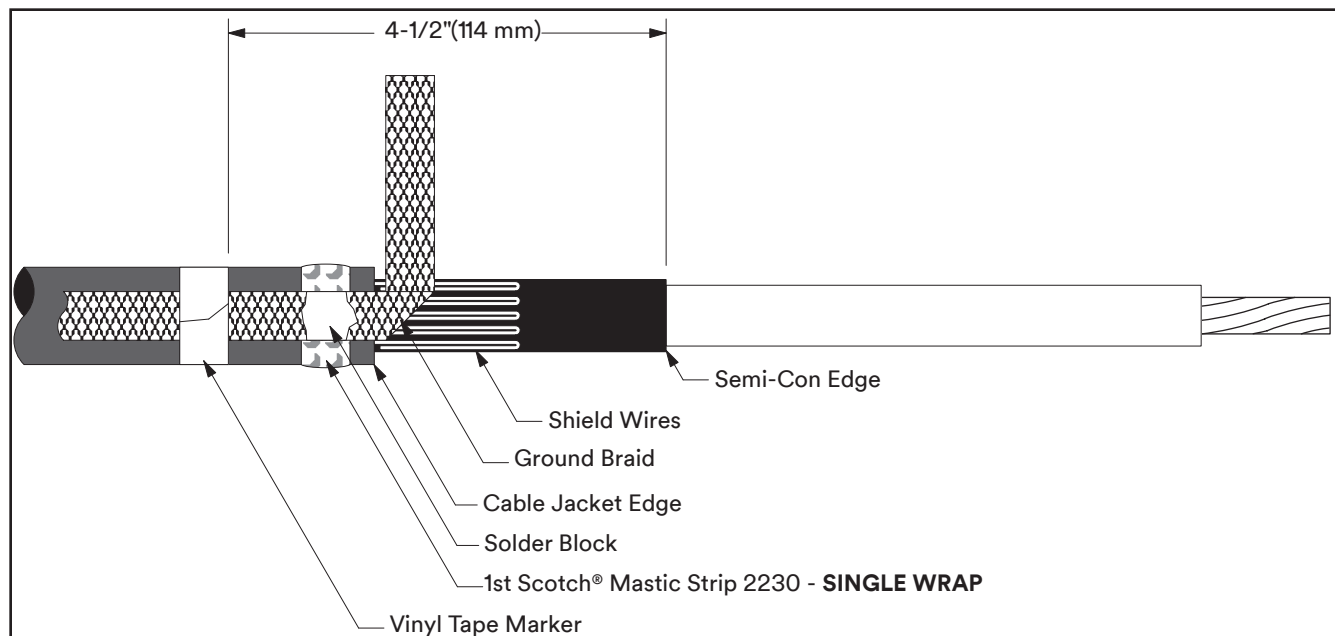

Figure 12
- 8.2 Position pre-formed ground braid with short tail over wire shield directly adjacent to cable jacket cut edge. PLEASE NOTE: The ground braid needs to make full contact with the shield wires. Position long tail of ground braid, extending over cable jacket with solder block over mastic strip (Figure 12).
Secure ground braid to cable jacket **4 1/2" (114 mm)** from cable semi-con edge using vinyl tape (see **NOTE** and Figure 12).